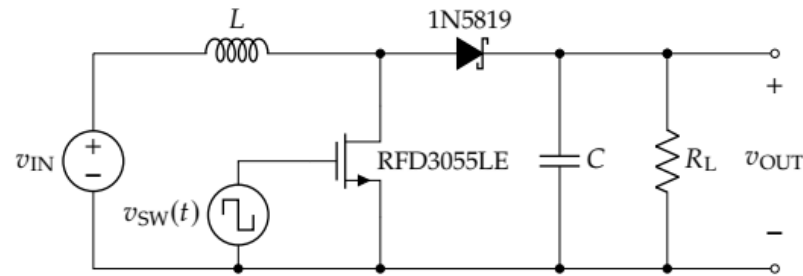

Figure 10.10: A boost converter circuit.
2. Construct the circuit in figure 10.10 using the above values.